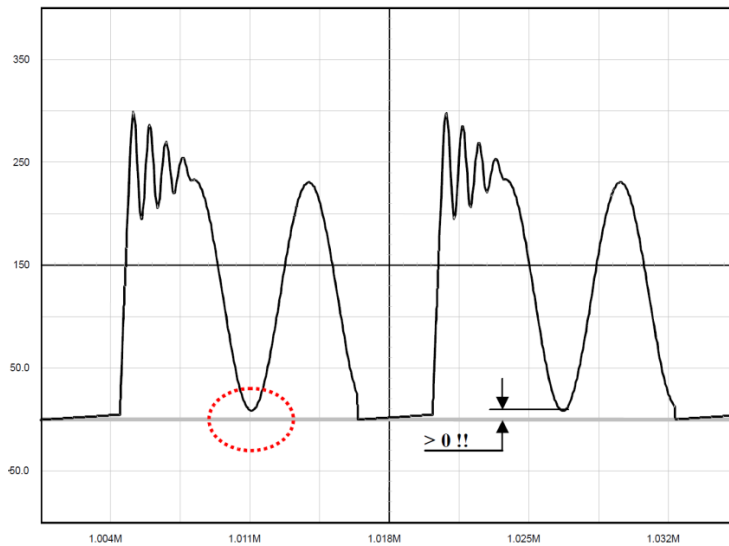

Figure 51. The Drain-Source Wave Shall Always be Positive
1. The lateral MOSFET body-diode shall never be forward biased, either during start-up (because of a large leakage inductance) or in normal operation, depicted by Figure 51. This condition sets the
and defines the amount of ripple we want in CCM, depicted by Figure 51.
Figure 53a: the simple capacitor limits the voltage according to the lateral MOSFET body–diode shall never be forward biased, either during start–up (because of a large leakage inductance) or in normal operation as shown by Figure 51. This condition sets the maximum voltage that can be reflected during t_f . As a result, the flyback voltage which is reflected on the drain at the switch opening cannot be larger than the input voltage. When selecting components, you must adopt a turn ratio which adheres to the following Equation 6. This option is only valid for low power applications, e.g. below 5 W, otherwise chances exist to destroy the MOSFET. After evaluating the leakage inductance, you can compute C with (Equation 7). Typical values are between 100 pF and up to 470 pF. Large capacitors increase capacitive losses...